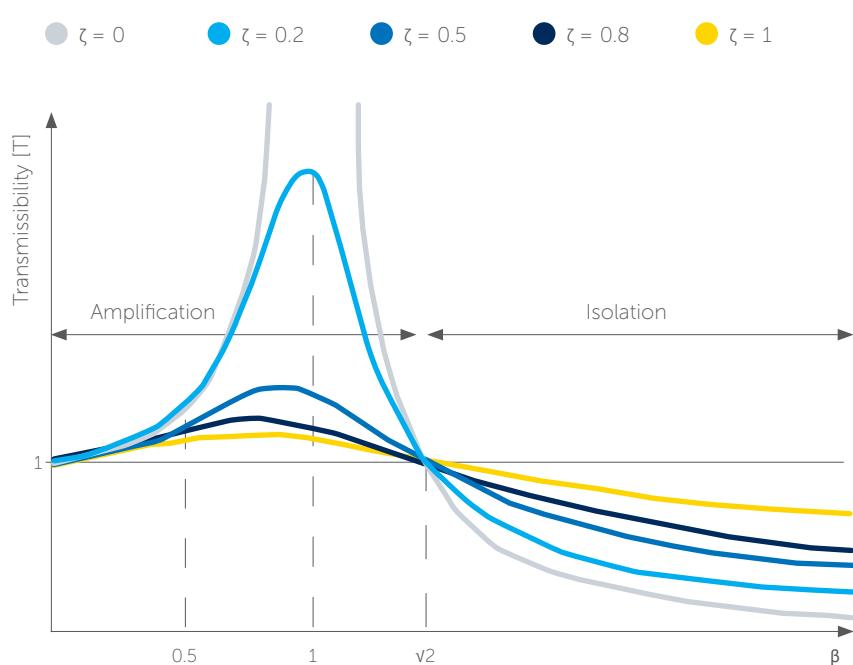

Figure 1 - Transmissibility of systems with and without damping.
The graph in Figure 1 illustrates how the ratio between the natural frequency of the isolator and the vibration source (β) influences the level of isolation (I).